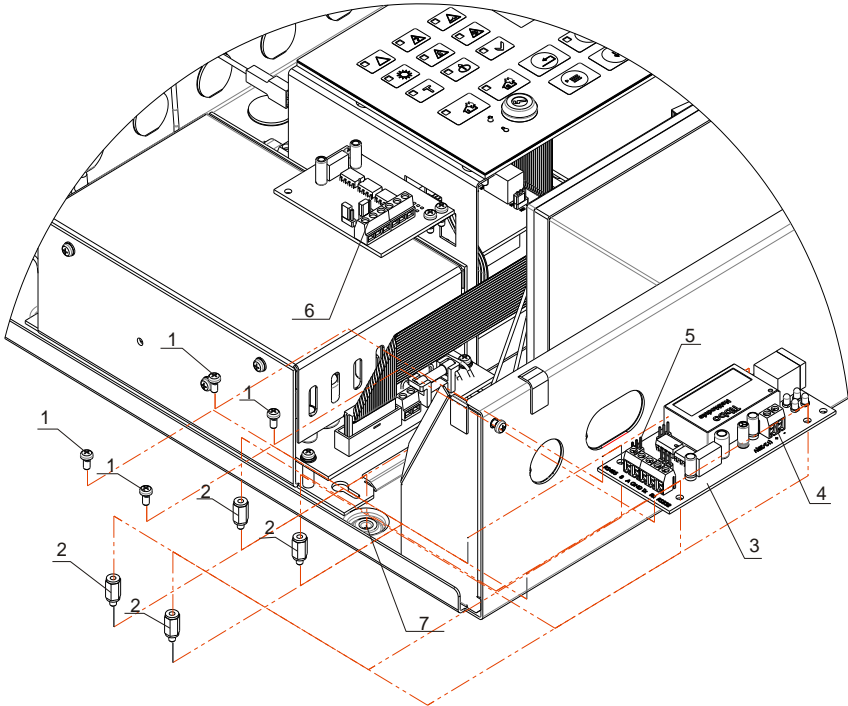

Fig.6
2.2.2.3. Mount the remote sleeves (pos.2, fig.6) into the provided openings for this (pos.7, fig.6) (Sleeves and openings are with crashed thread).
2.2.2.4. Mount the LAN module on the remote sleeves by means of the 4 screws (pos.1, fig.6).
2.2.2.5. Join the power supply of the module (pos.4, fig.6) to terminals " +28V" and "GND" of the Control Panel.
2.2.2.6. By two-wire line connect the LAN module (pos.5, fig.6) and terminals A and B of module RS232/485 (pos.6, fig.6) from the Control Panel.